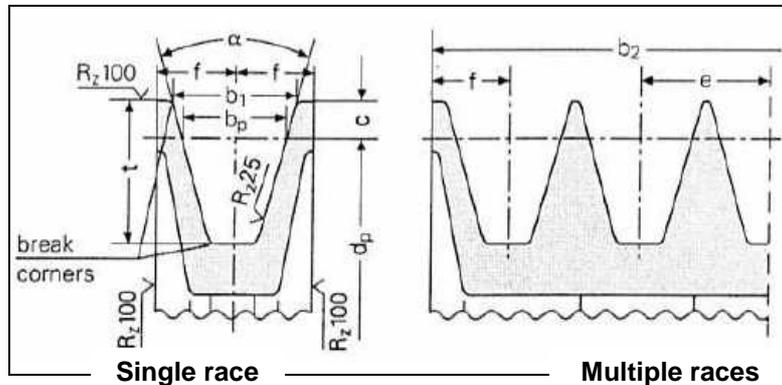

fig. 8
- a) Use pulleys for v-belts with race dimensions prescribed / recommended by the belt Manufacturer. Should no indications be supplied, please see fig. 8 and the table in fig. 9.